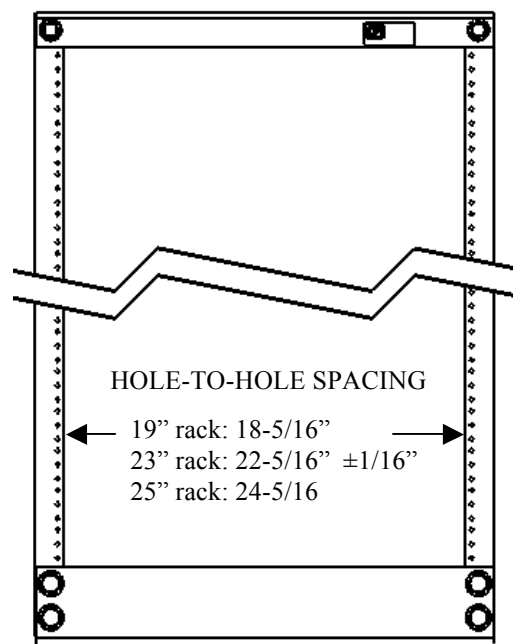

Fig. 2, EIA Spacing
- 5) Verify the mounting hole spacing according to the rack size as indicated in figure 2. Adjust the rack as needed.